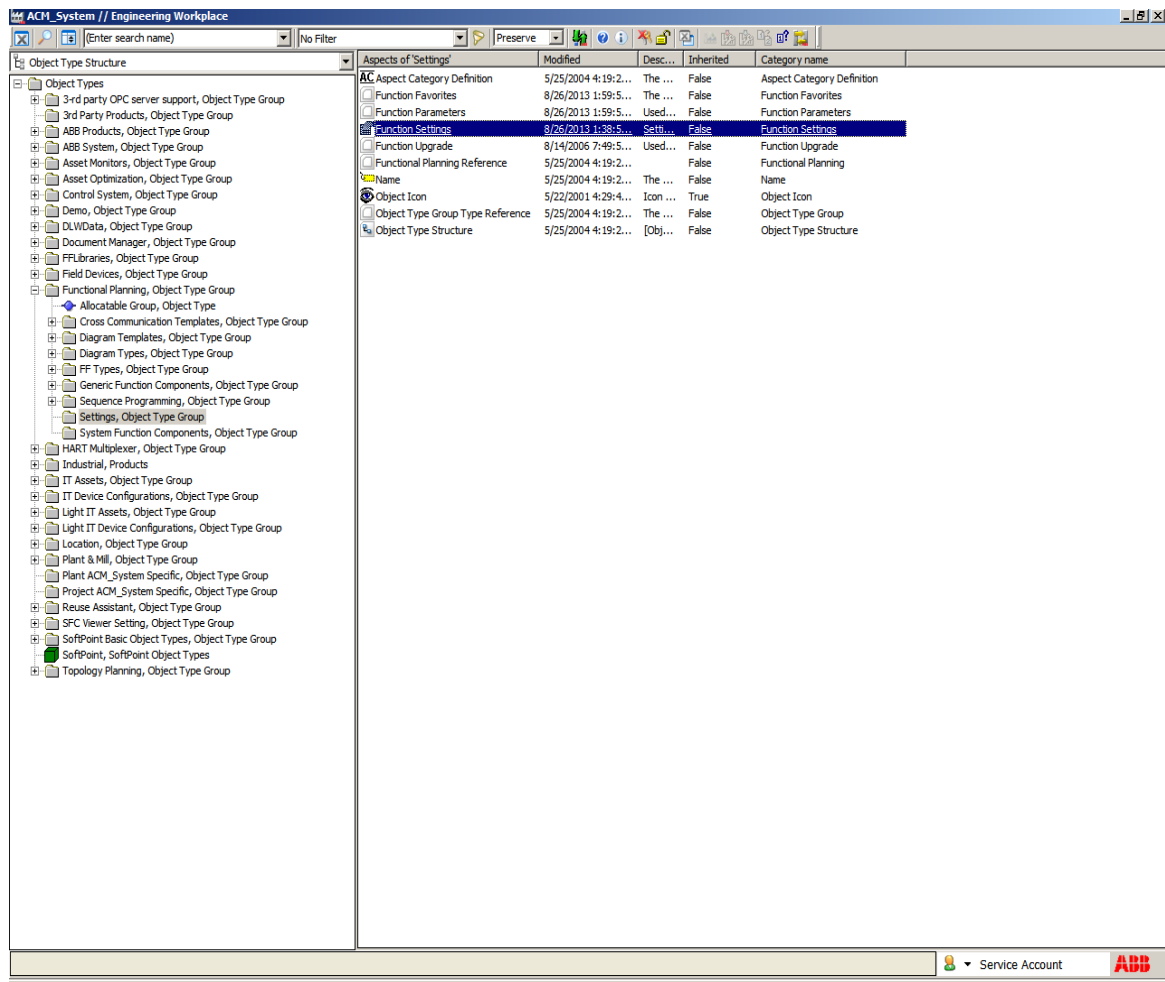

Figure 318. Settings in Object Type Structure
1. Open **Engineering Workplace** and navigate to **Object Type Structure -> Function Planning -> Settings**, see Figure 318.